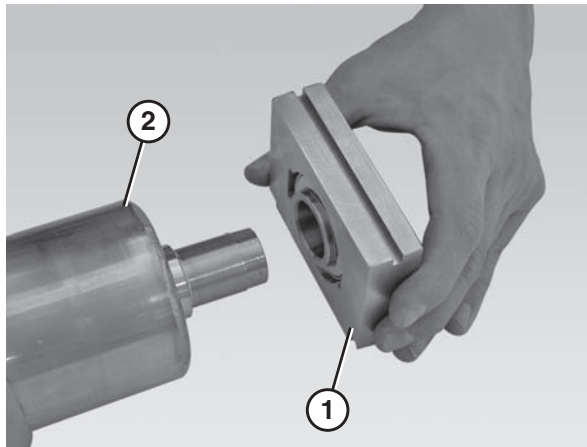

Figure 101
4. Slide the housing block (**Figure 101, item 1**) and bearing off of the tension spindle (**Figure 101, item 2**).